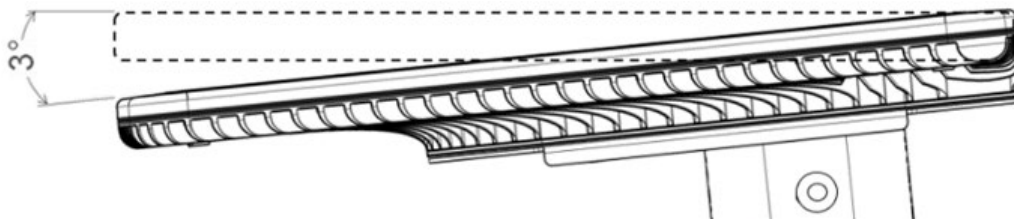

Figure 12: Tilting the ODU forward to 3-degrees
9. The stanchion is adjustable and allows for pivoting around the lower bolts. These bolts were installed first in step 5 when connecting to the mount and left loose enough to allow pivoting. The curved slot in the center of the stanchion on either side controls the angle of the stanchion, which can be locked in place using the proper bolts. The ODU requires 3-degrees of forward tilt where forward is the direction away from the stanchion along the short side of the antenna (shown in Figure 12). An inclinometer must be used to ensure the ODU is at the desired 3-degrees forward tilt, after which all four bolts may be tightened to their required torque values.